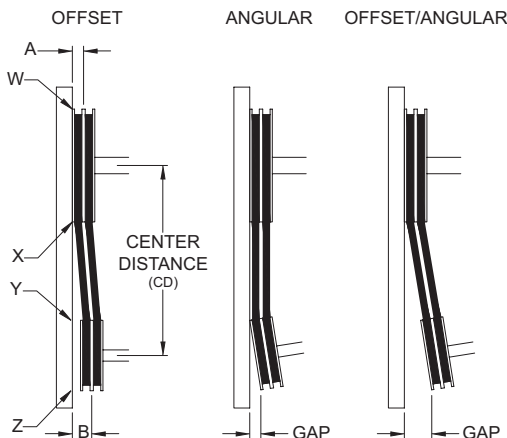

Figure 4
4. Ensure pulleys are properly aligned. Refer to *Figure 4*.
Figure 4 indicates where to measure the allowable gap for the drive alignment tolerance. All contact points (indicated by WXYZ) are to have a gap less than the tolerance shown in the *Tolerance* table.